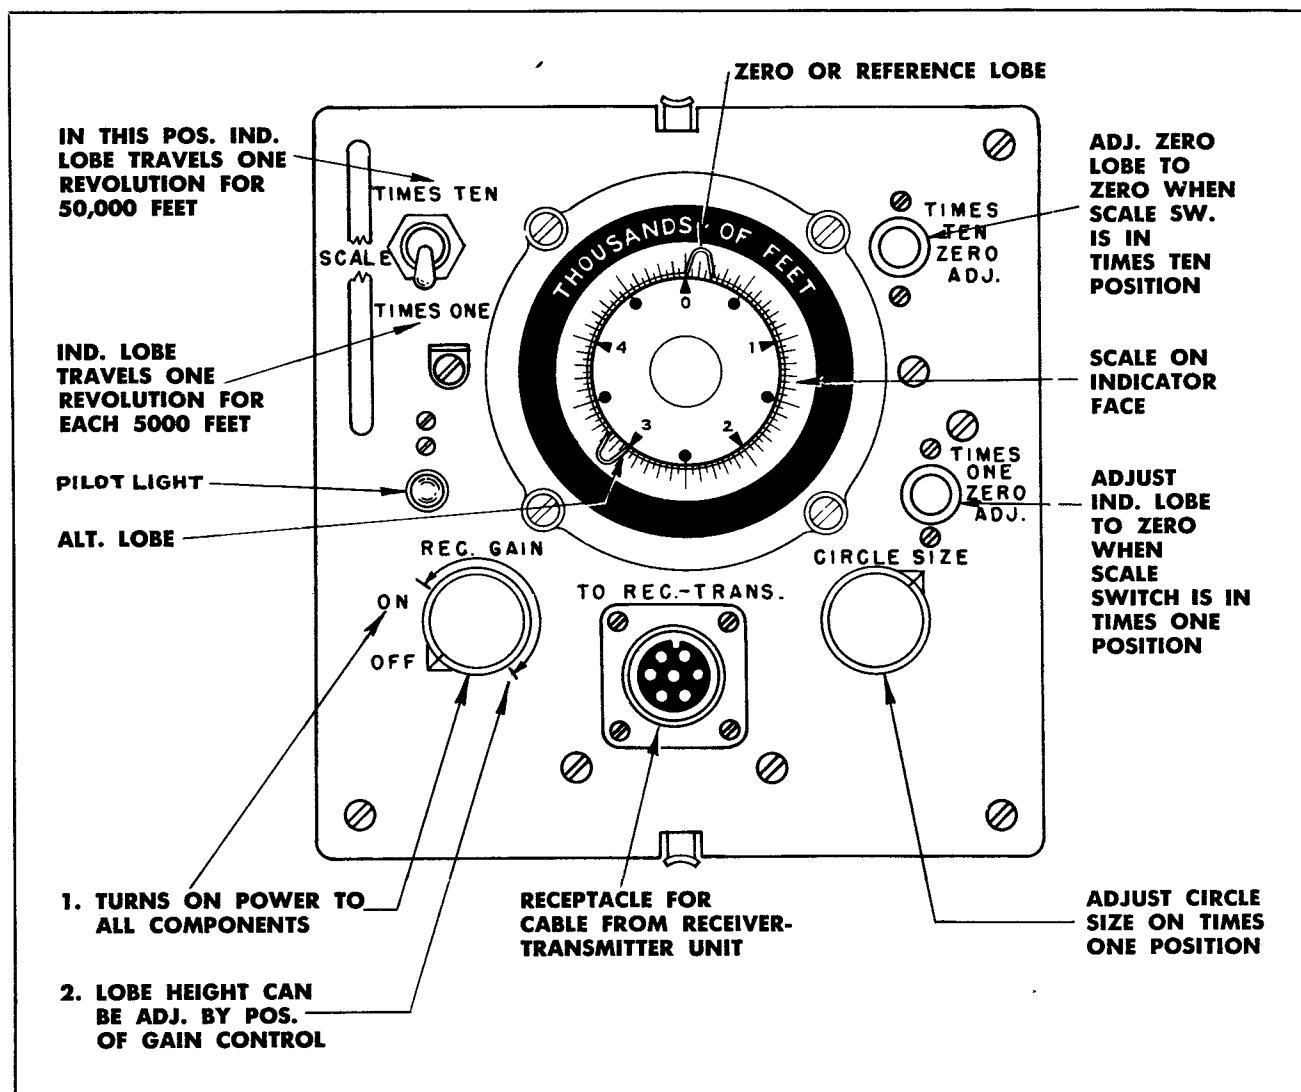

Figure 3-3. Dial and Controls for Indicator I-152-C
(See figure 3-3 for location of controls.)
(2) Set the scale switch to the "TIMES ONE" position.
(3) Adjust the "TIMES ONE ZERO ADJ." so that the reading point of the reference pulse is set to zero on the indicator scale (see fig 3-3). This should be done just as the wheels of the aircraft are about to leave the ground.
(4) As the aircraft climbs, the reflected pulse will move away from zero and decrease in amplitude.
(5) At an altitude of several hundred feet turn up the gain control so that the reflected pulse (a new pulse appearing near zero) is 1/4-inch high.